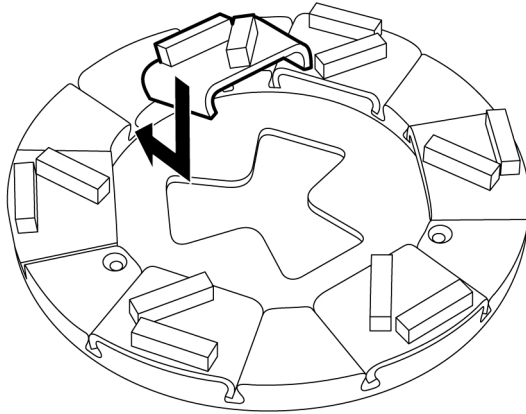

Figure 4-3. Fitting grinding tools
1. Slide the grinding tool diagonally, from above, down into the appropriate guide slot on the tool holder, see Figure 4-3, page 15. Then push the tool fully into the guide slot.
2. Slide the grinding tool diagonally, from above, down into the appropriate guide slot on the tool holder, see Figure 4-3, page 15. Then push the tool fully into the guide slot.